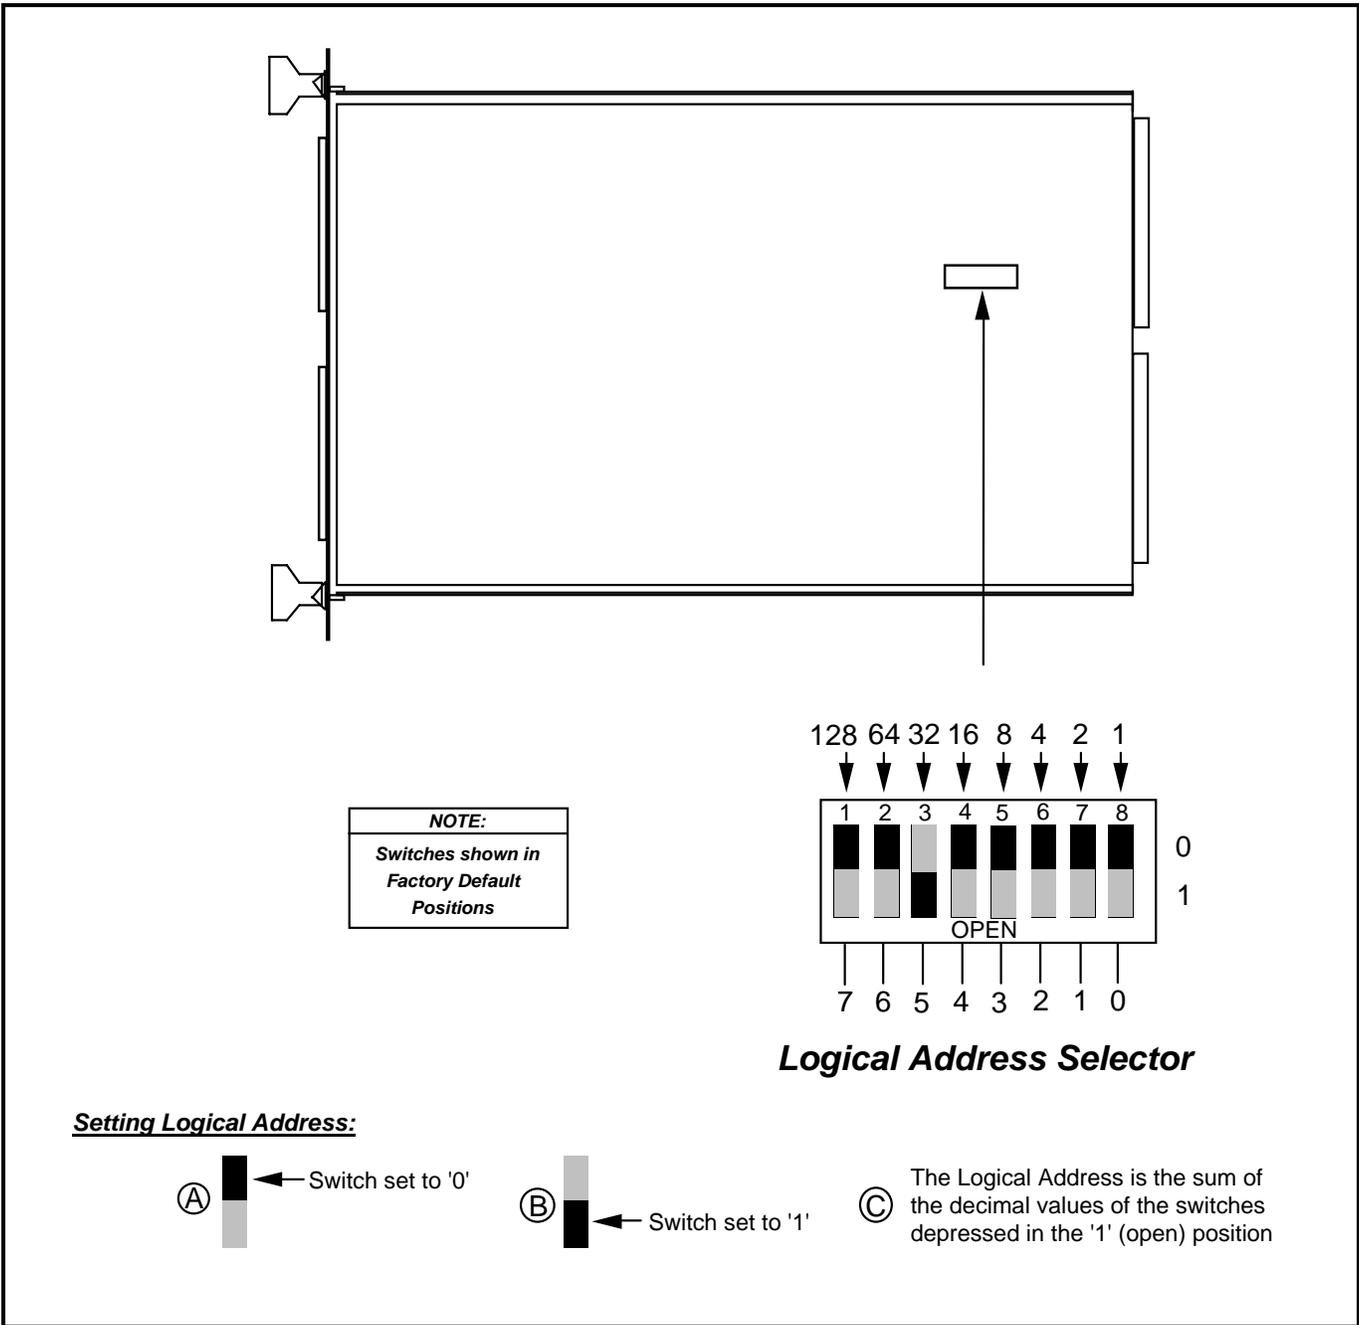

Figure 3-2 Logical Address Selector DIP Switch
NOTE: *As shown in Figure 3-2 the Logical Address DIP Switch, accessed through the module cover, forms its value based on the sum of the decimal values of the switches in the OPEN (1) position. Examples of this are shown in this figure.*